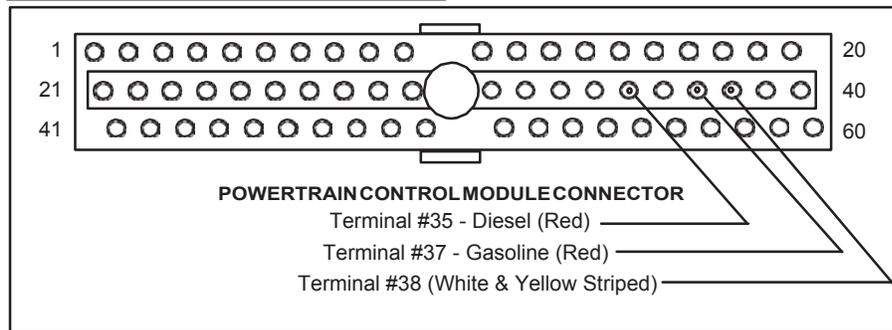
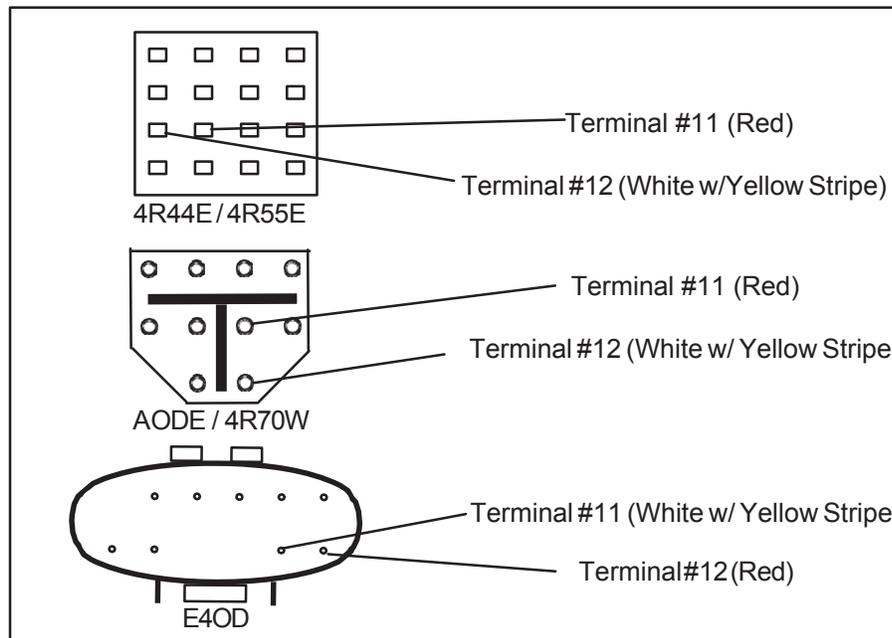

Figure 1 (EEC-IV)
Figure 3 (connection at transmission)
STEP 7. Use Figs. 1 or 2 to identify the PCM wires to which the ShiftPlus wires will be connected. (For a connection at the transmission harness, use Fig. 3.)
Vehicles with an EEC-IV computer (Fig 1): Locate the red wire attached either to pin #37 (for gasoline engines) or pin #35 (for diesels), and connect the ShiftPlus unit's red wire to it using the supplied Scotchlok® connector. Then locate the white wire with yellow stripe attached to pin #38, and connect the unit's black wire to it using the supplied Scotchlok® connector.